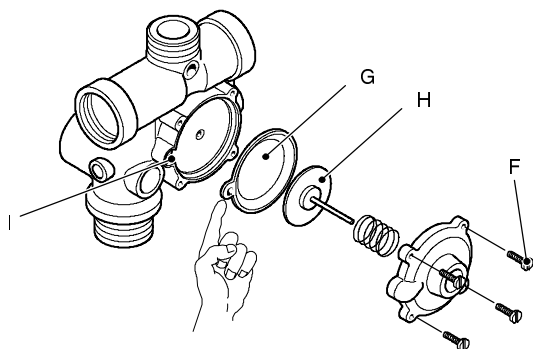

fig. 62
- 3 Unscrew the four screws *F*, open the hydraulic operator and remove the membrane *G* (fig. 62).
**Assembling the part, ensure to place the concave side of the membrane towards the actuator plate *H* and the reference hole indicated in the seat *I* (fig. 62).**